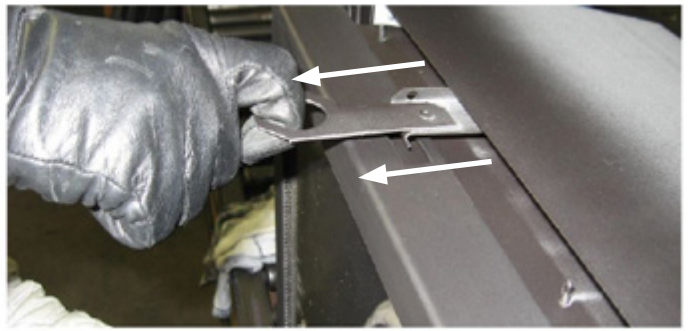

Figure 15.0.02:
2. Pull and lift the finger rings to detach from the door frame (See **Figure 15.0.02**).